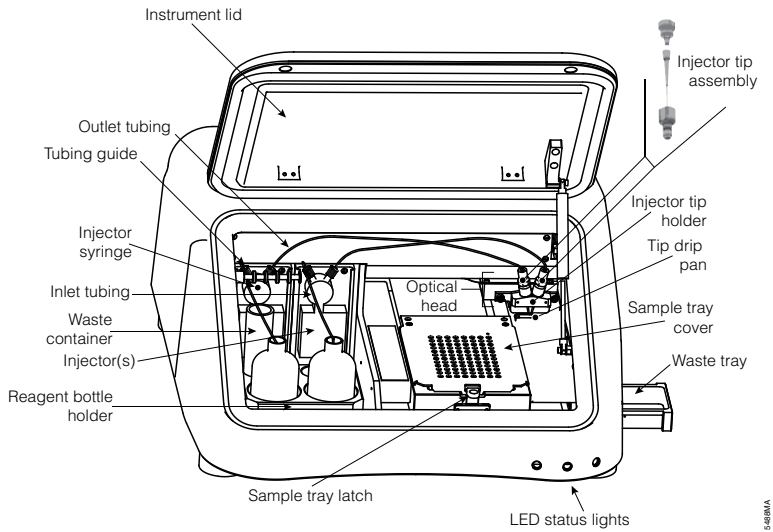

Figure 3. Interior view of the GloMax® 96 Microplate Luminometer.
2. Open the instrument lid and gently press the sample tray latch to release the sample tray cover (see Figure 3).